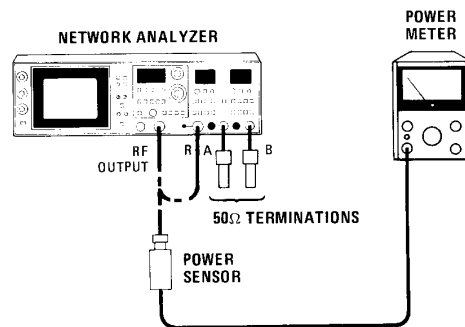

Figure 4-12. R-A and R-B Crosstalk Test Setup
Equipment listed is for two test setups, Figures 4-12 and 4-13.
- Calibrate power meter and sensor. Connect power sensor to analyzer RF OUTPUT as shown in Figure 4-12 and adjust OUTPUT dBm for a meter indication of +10 dBm.
- Disconnect power sensor from analyzer. Connect RF OUTPUT to the R INPUT port and terminate the A and B INPUT ports as shown in Figure 4-12.